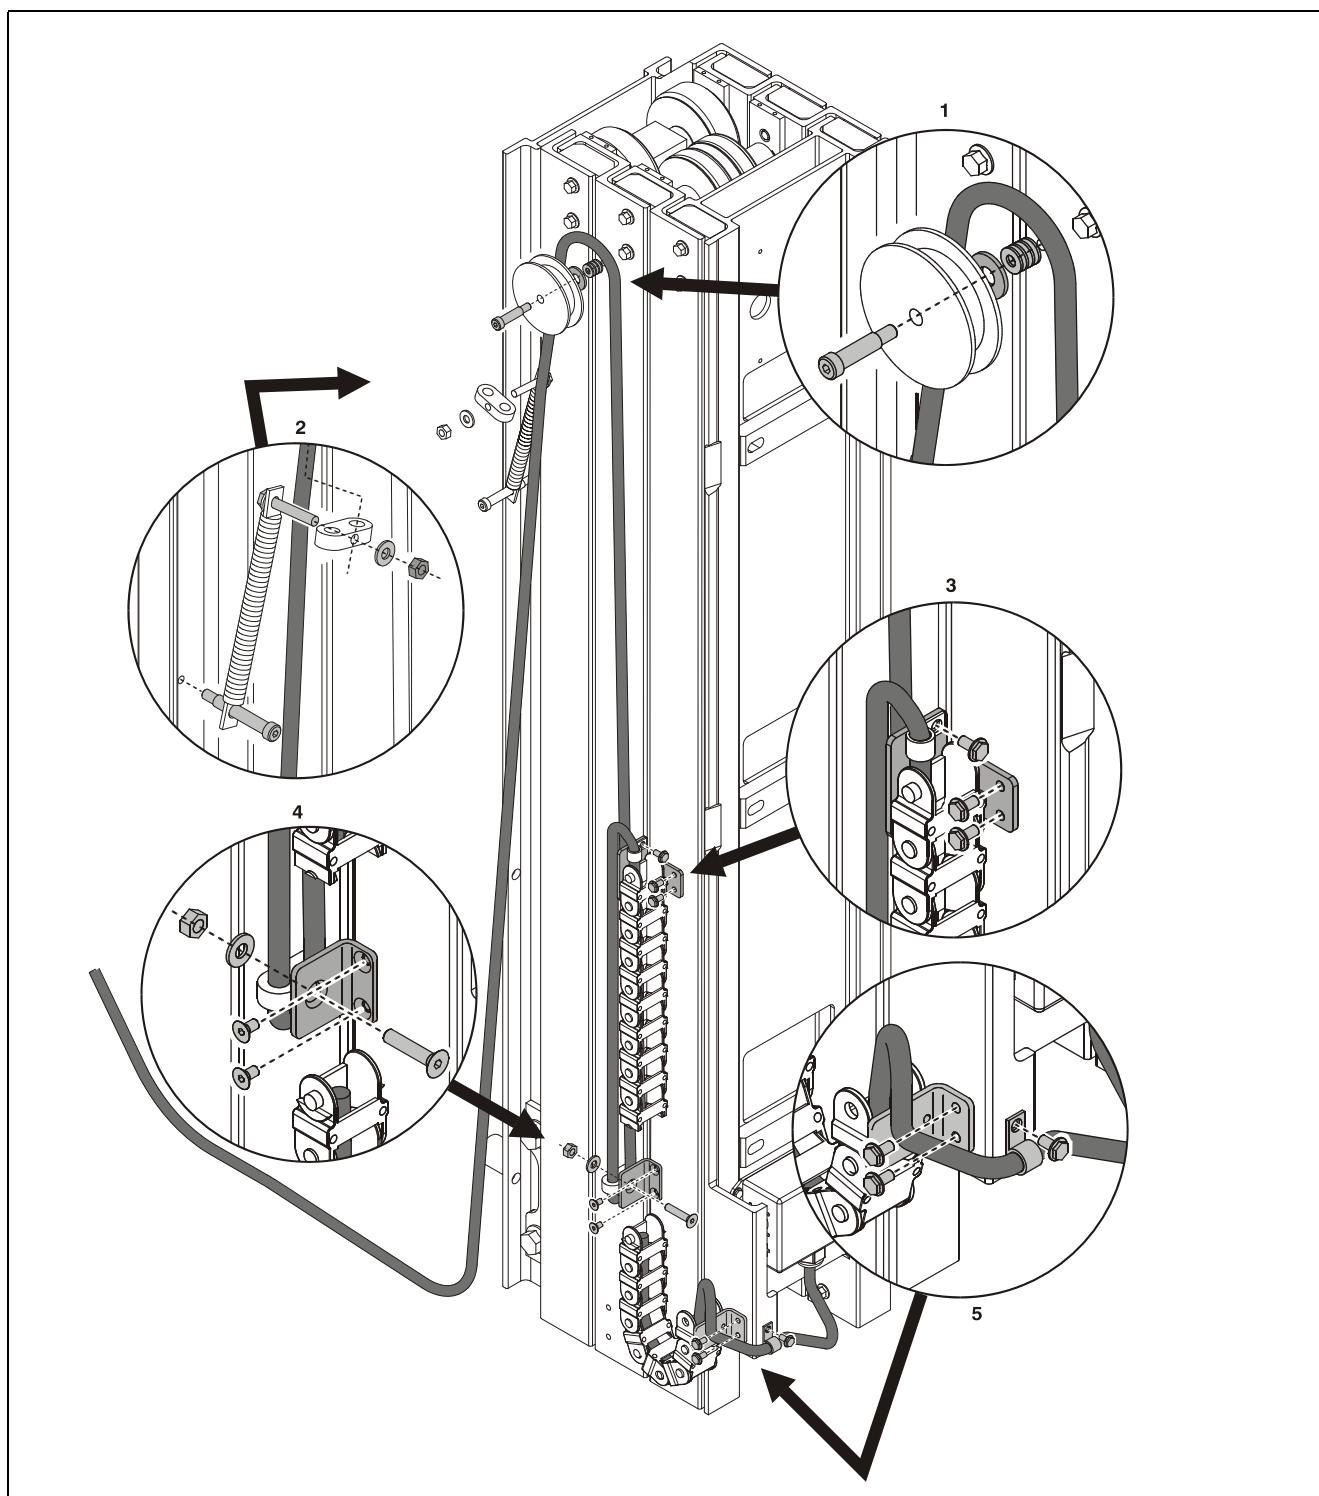

Figure 5-7. Platform Junction Box to Ground Control Station Wiring Harness.
45. Install the platform junction box to ground control station wiring harness (See Figure 5-7.), including the platform junction box, powertrack assembly, harness cable sheave assembly, and harness spring tensioner to the side of the mast assembly. Also reference Section 4, Platform Junction Box Install/Remove.